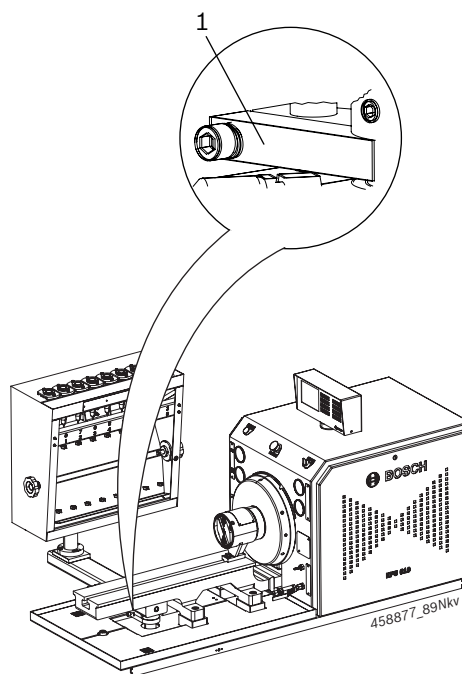

Fig. 11: Clamp for fixing the MGT during transit
The MGT is locked by tightening the clamp (Fig. 11, Pos. 1) to avoid any damage during transit. Every time the EPS 610 is transported, ensure that the MGT is locked.
6. Loosen the clamp (Fig. 11, Pos. 1)
12. Lock the clamp (Fig. 11, Pos. 1) of the swing arm.